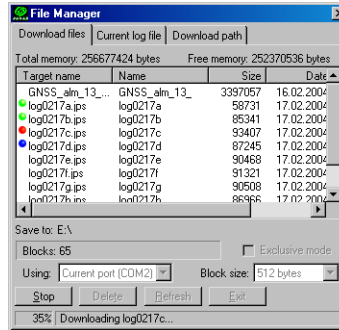

Figure 4-6. Download Files – Status Indicators
- Click the **Download** button. During the download, status indicators display next to each file (Figure 4-6 on page 4-10).